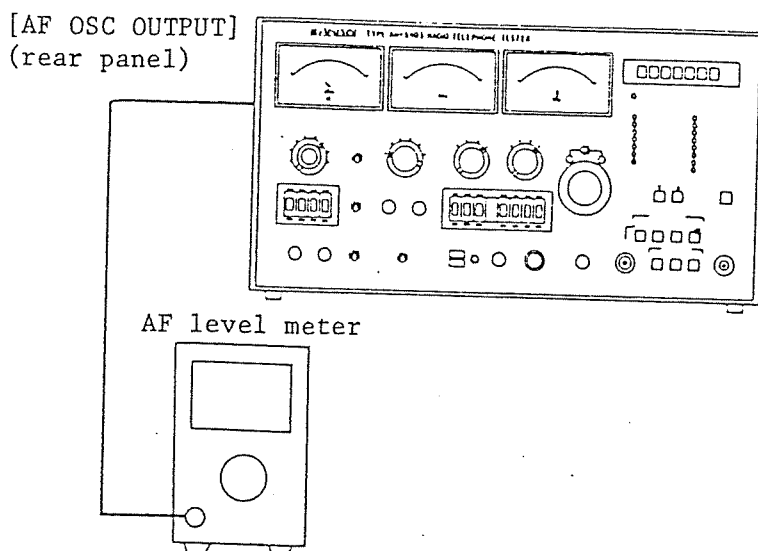

Fig. 3-21 Output level test
- (1) Connect an AF level meter to the [OUTPUT] connector of the [AF OSC] located on the rear panel of this apparatus as shown in Fig. 3-21. Terminate the input to the AF level meter in 600  $\Omega$ .
- (2) The controls of this apparatus may be at any positions, but note that the setting of the [AF OSCILLATOR 50 ~ 2999 Hz] must be between 50 and 2999 Hz.
- (3) Turn the [LEVEL] knob of the [AF OSC] located on the rear panel of this apparatus fully clockwise. Then, read the output level on the AF level meter and verify that it is within +5 +1 dBm.
- (4) Turn the [LEVEL] knob fully counterclockwise. Read the output level and verify that it is -30 dBm or less.